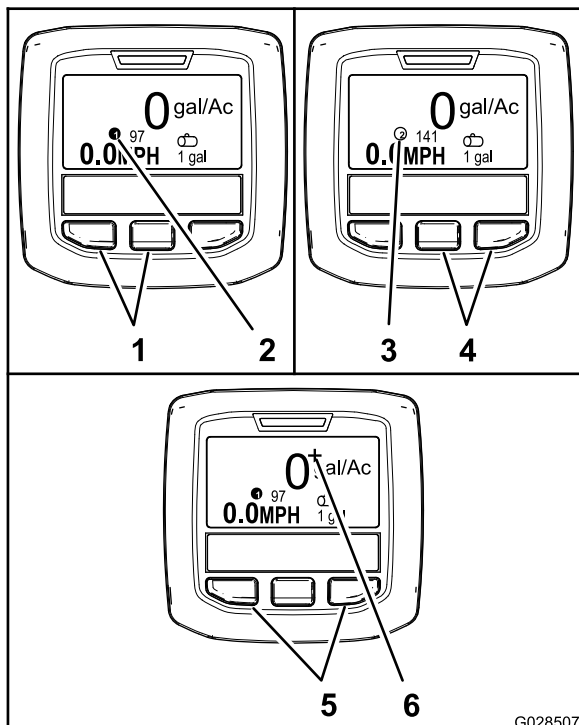

Figure 65
- To select application rate 1, press the left 2 buttons of the InfoCenter (Figure 65).
- To select application rate 2 (application rate), press the right 2 buttons (Figure 65).
- To temporarily apply a boost application rate, press and hold the 2 outer buttons (Figure 65).